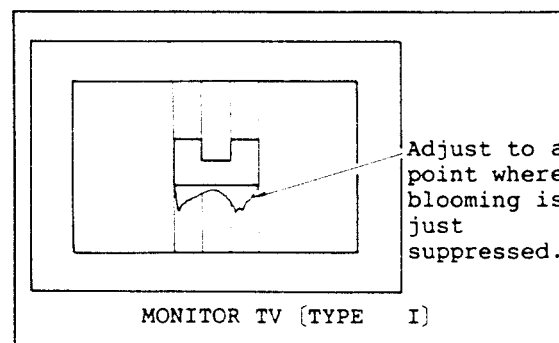

Fig. II-47
- (7) Remove the ND-2.0, and observe the monitor TV. (Fig.II-47)
- (8) Turn VR2001 for checking the blooming.